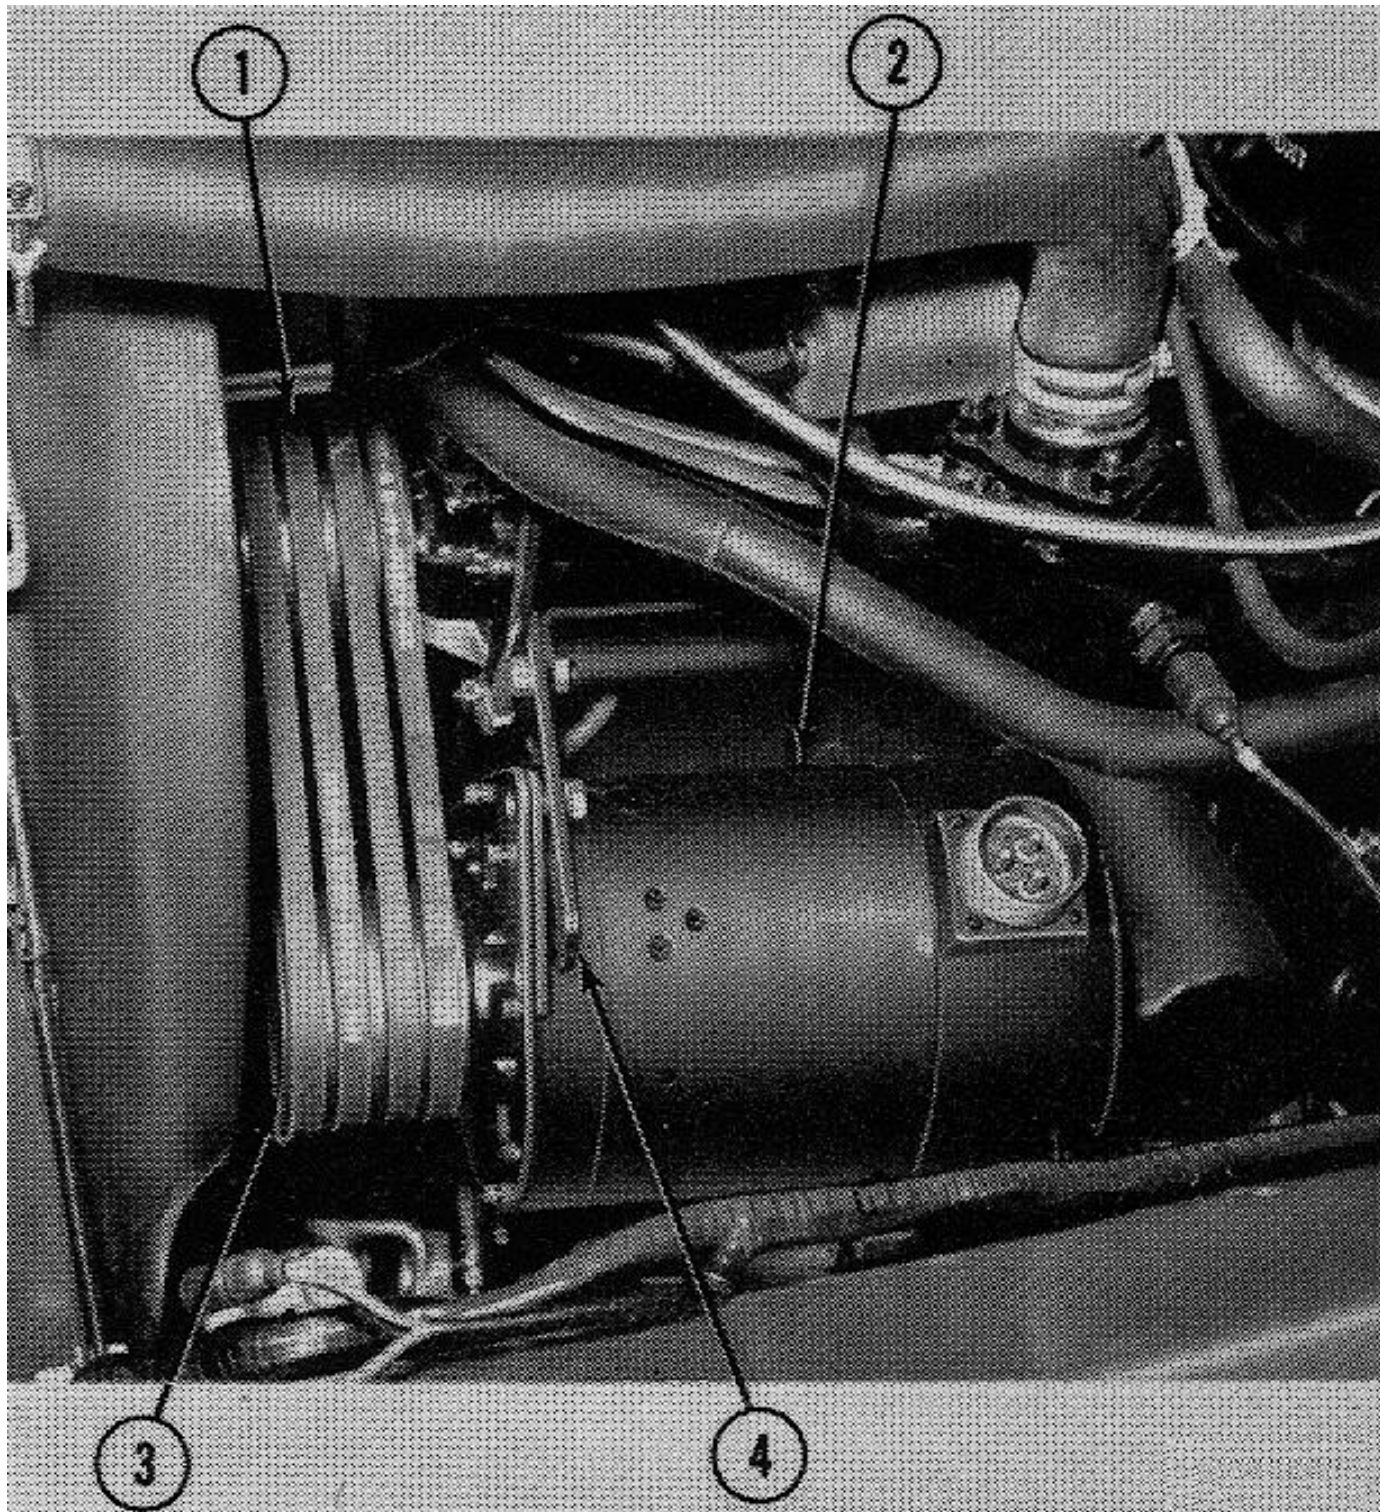

FIG. 33-E8 100 AMP. ALTERNATOR AND FAN BELTS
- c. Position the four new matched fan belts on engine and alternator pulleys. Install bolt, washer and lock washer in alternator adjusting bracket and after properly adjusting belt tension securely tighten the alternator mounting bolts and the adjusting bracket bolts (Fig. 33-E8).